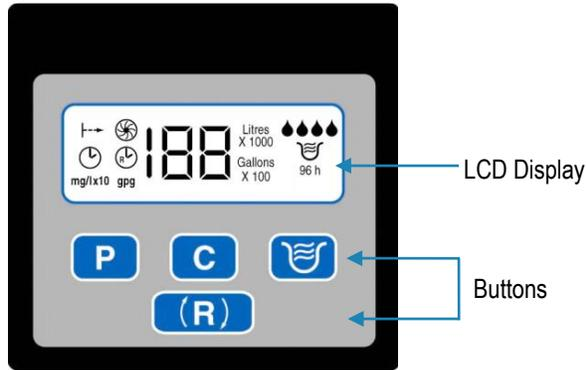

Figure 11: Four-Button Icon Controller Showing All Possible Icons
- D. Open a cold water tap and allow the appliance to flush for 20 minutes or until approximately 270 L (72 gallons) have passed through the appliance. This procedure is required to meet NSF requirements. Verify the flow rate on the controller, which indicates water flow. See Figure 11.